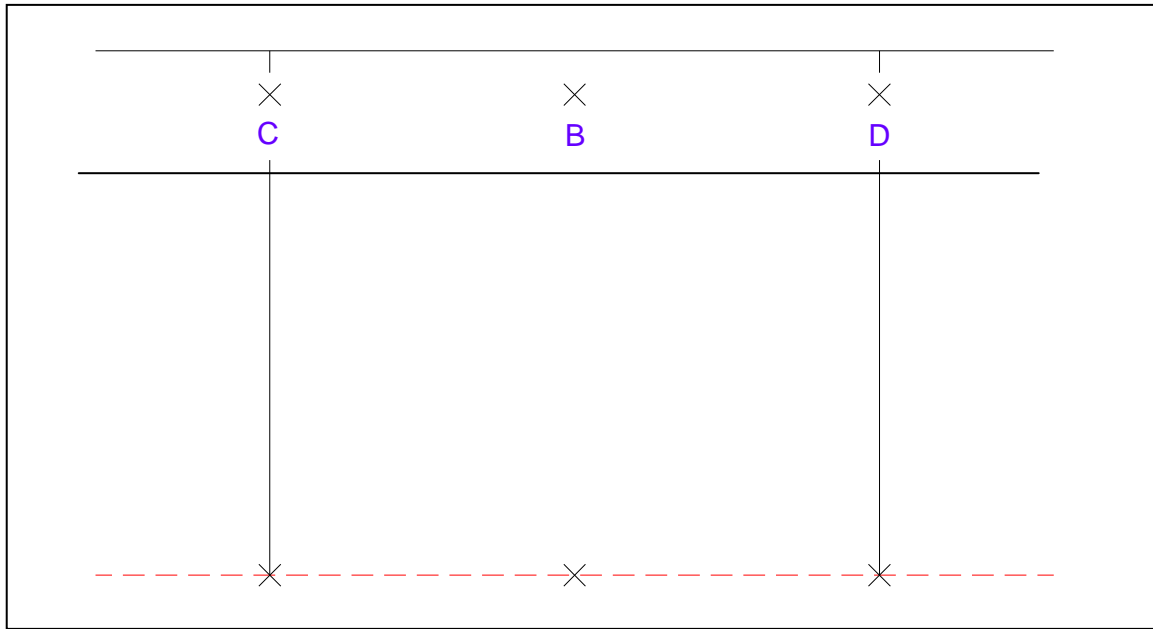

Figure 15 Chalking the Edge of the Carriage at the First Floor (Front View)
- d. **Figure 15** - Using a chalk line, snap a line between C and D.
2. Stand the FREIGHTLITE up with the center of the carriage aligned with the "B" mark (Reference **Figure 15**) and align the carriage edge with the chalk mark made in the previous step. Use a chain fall from overhead beam or a fork truck to raise the mast pair and carriage into place (refer also to the General Arrangement Drawing).